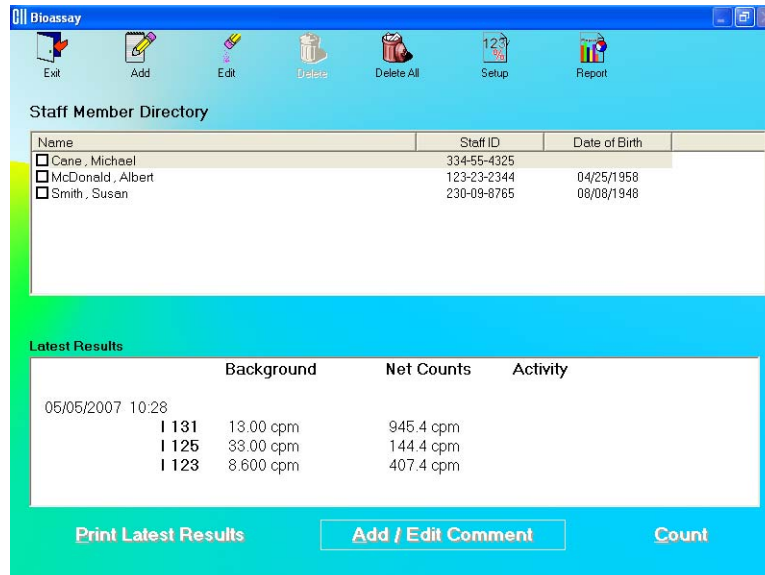

Figure 11-1 Main Bioassay Screen
To access the Bioassay module, click the **Bioassay** button or press *Alt+B* on the CAPTUS 3000 Main screen. Figure 11-1 Main Bioassay Screen will appear. The **Staff Member Directory** box will be empty if there are currently no existing staff members in the database. Added staff members will appear in this box with their name, the Staff ID and date of birth. By default, the first record is selected. The **Latest Results** box below shows the results of the most recent measurements performed on the selected staff member. The icons at the top of the screen provide functions to add, edit or delete data, to change measurement setup and to view test reports.
1. Click the  icon on Figure 11-1 Main Bioassay Screen. The Setup screen appears as shown in Figure 11-2.
- Click the  icon on Figure 11-1 Main Bioassay Screen. The screen appears as shown in Figure 11-12.